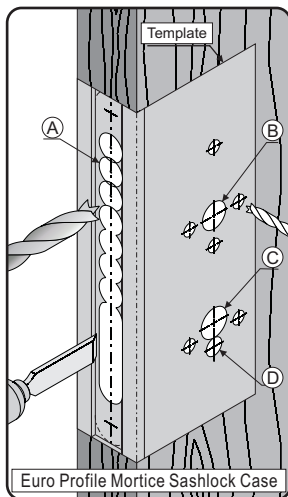

Fig. 2
- Replace lock and mark 2 fixing holes to suit screws supplied. See Fig 2.